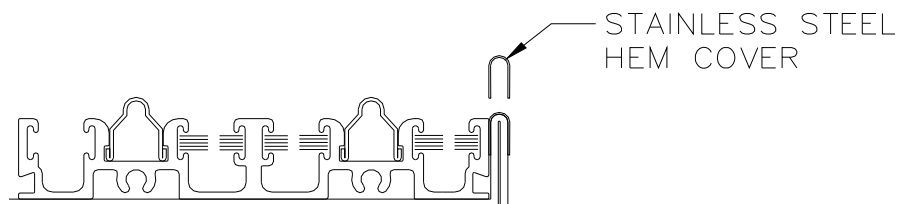

Figure 20:
1. Push the stainless steel hem cover over the inside water leg of the aluminum sillpan (Figure 20). The hem cover is used to improve the esthetics of the aluminum sillpan.